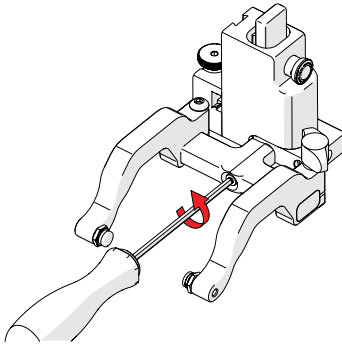

Fig. 34 - Remove yoke
1. Using the supplied 3 mm driver, unscrew the yoke (*Fig. 34*).
1. Remove the yoke using the supplied 3 mm driver (Fig. 34).